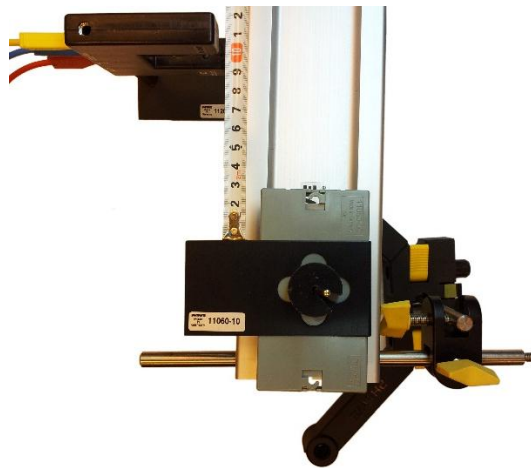

Figure 2.11: The light barrier at a distance 10 cm from the edge of cart plate .
- 3- Place the other light barrier at a distance $s = 10 \text{ cm}$ from the edge of cart plate as shown in Figure 2.11.